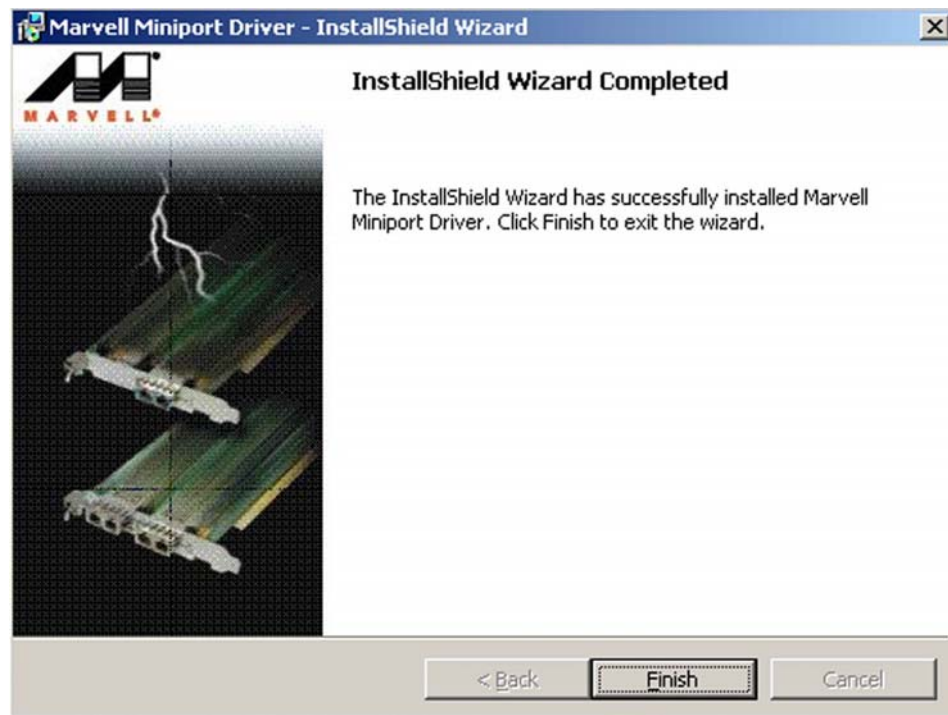

Figure 6-24: Ethernet Driver Installation Confirmation
Step 7: Once the installation is complete and the confirmation screen shown in **Figure 6-24** appears. To exit the shield click the **"FINISH"** button.